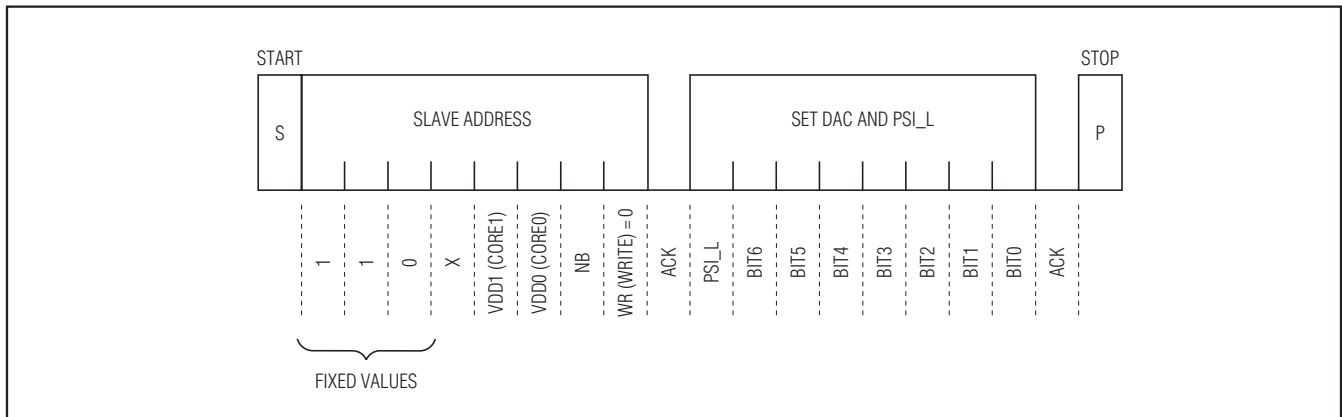

Figure 14. SVI Bus Data Transfer Summary
A complete command consists of a START condition (S) followed by the MAX17480's slave address and a data phase, followed by a STOP condition (P). For the slave address, bits 6:4 are always 110 and bit 3 is X (don't care). The WR bit should always be 1 since read functions are not supported. Figure 14 is the SVI bus data-transfer summary. Table 7 is a description of the SVI send byte address and Table 8 describes serial VID 8-bit field encoding.